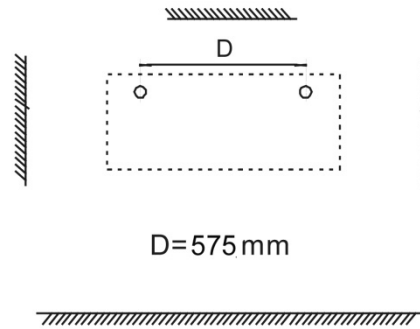

Figure 2
2. Drill two holes on the wall that are suitably sized for inserting the $\varnothing 8$ mm Fischer screw plugs. (figure 2) – D=575 mm